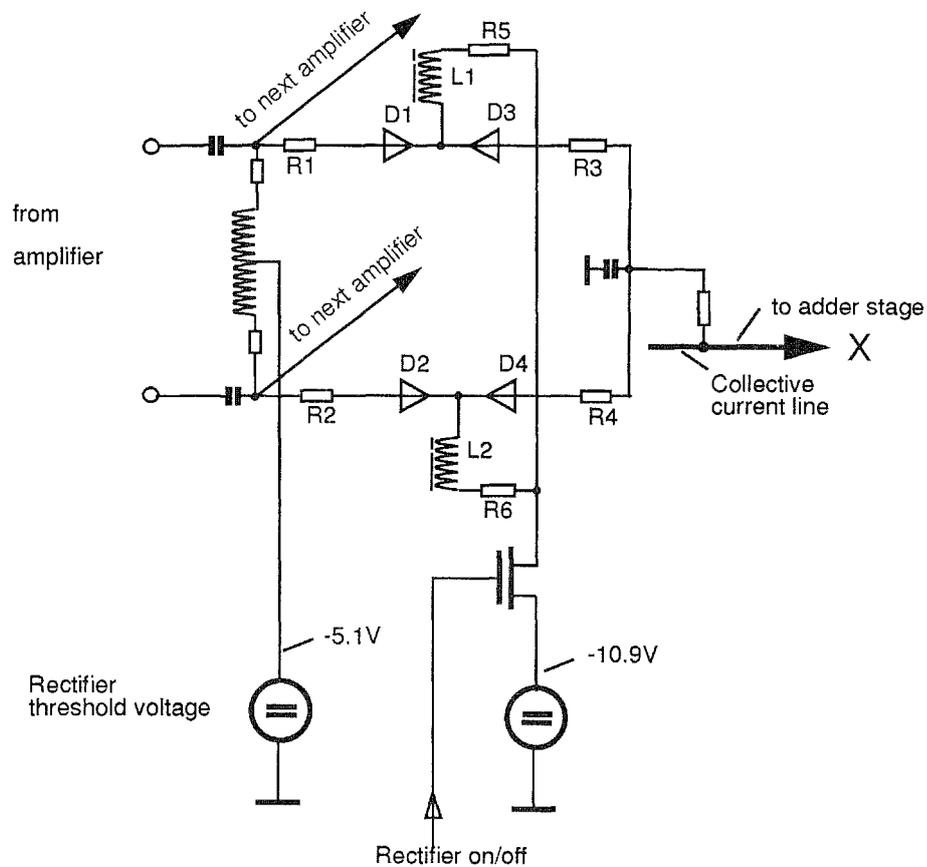

Fig. 9-5 Rectifier stage circuit diagram
The rectifier circuit is shown separately in figure 9-5 on page 9-16. L1, L2, R5 and R6 form two current sources together with the -10.9 V voltage source. In the idle state, their current flows through the diodes D1 and D2, via resistors R1 and R2 and the balun to the rectifier voltage source (approx -5.1 V). If a signal of sufficient amplitude is supplied from the previous stage, the current is divided between the resistor pairs R1/R2 and R3/R4 with increasing amplitude. This leads to a signal current on the collective line (X). The maximum signal current (saturation state) is reached when half of the saturation current of each current source flows on the collective line. The bias voltage of the collective current line can be altered for linear rectification such that a small idle current flows on the line (switched on the main board [2101-M]). The field effect transistors for disabling the rectifiers are also located on the main board.